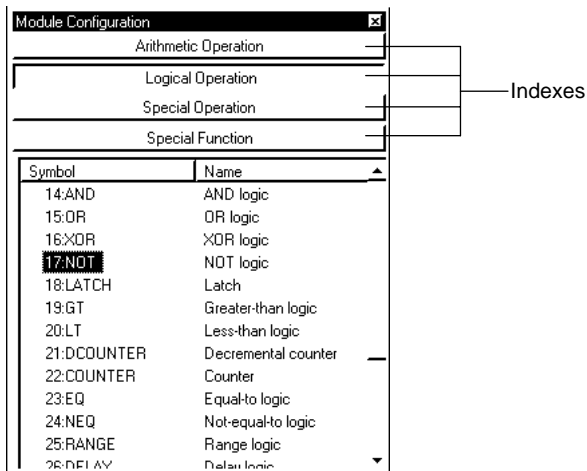

Figure 4.2.5 [Module Configuration] Dialog Box
- ≠ In the [Input Block] dialog box, double-click a blank box. The [Module Configuration] dialog box (Figure 4.2.5) appears. For ease of selection, modules are classified into four types; arithmetic operation, logical operation, special operation and special function.